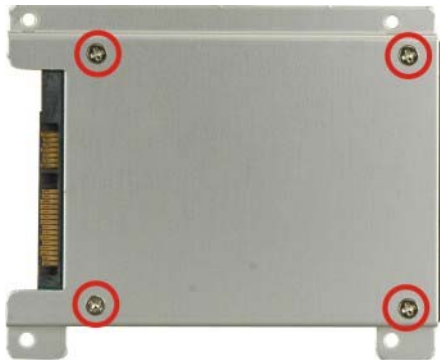

Figure 4-4: AFL-15A-N270 HDD Retention Screws
Step 4: Attach the HDD brackets to the HDD. To do this, align the four retention screw holes in the base of the HDD bracket with the retention screw holes on the bottom of the HDD. Insert four retention screws into the HDD bracket (Figure 4-4).